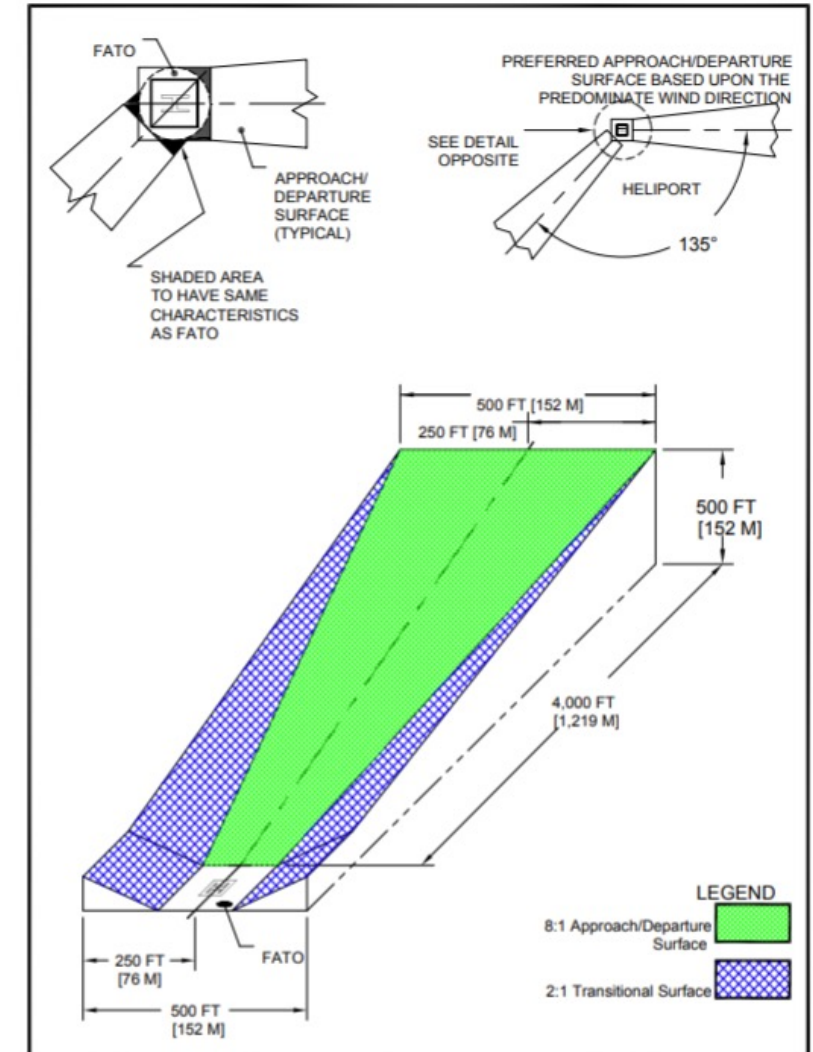

Figure 2-7. VFR Heliport Approach/Departure and Transitional Surfaces: General Aviation
b. VFR approach/departure and transitional surfaces. Figure 2-7 illustrates the approach/departure and transitional surfaces.
(1) An approach/departure surface is centered on each approach/departure path. The approach/departure path starts at the edge of the FATO and slopes upward at 8:1 (8 units horizontal in 1 unit vertical) for a distance of 4,000 feet (1,219 m) where the width is 500 feet (152 m) at a height of 500 feet (152 m) above the heliport elevation.